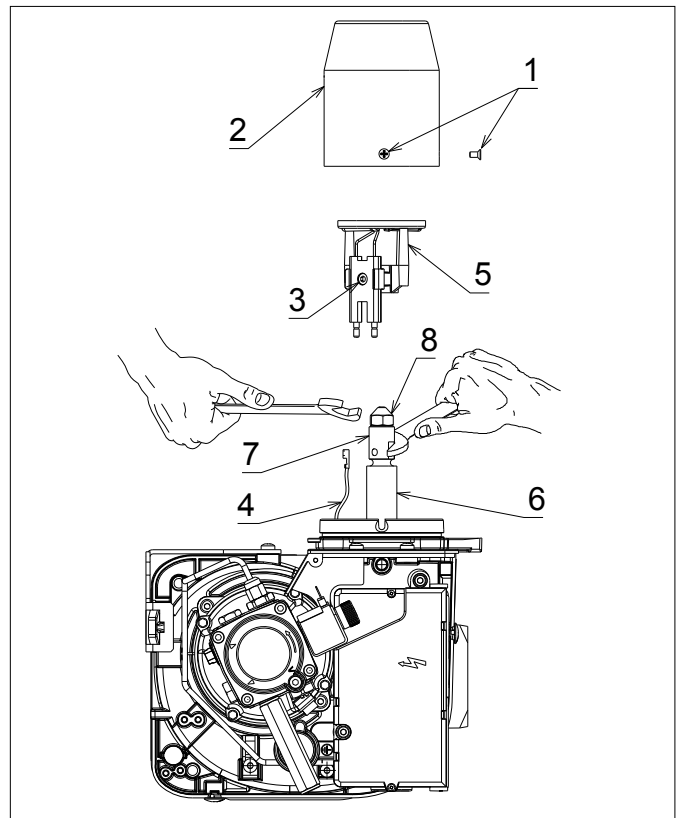
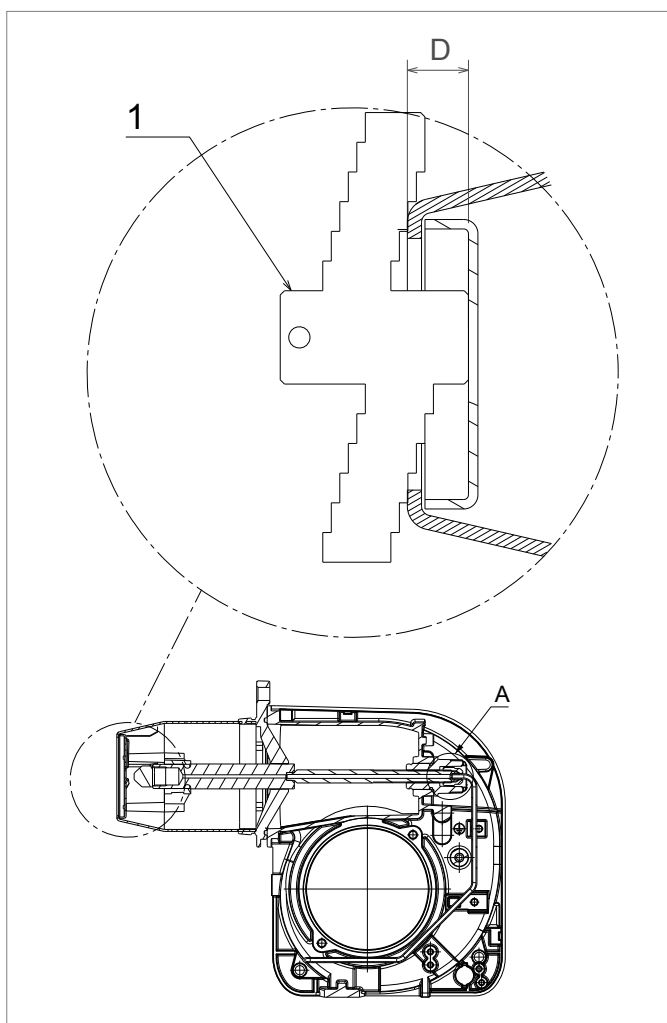

Figure 10-3: Burner head, diffuser and nozzle holder
Figure 10-5: Riello RDB 2.2 BX diffuser position and gauge plate
1. Remove the burner head. Refer to Figure 10-3. Loosen the three fixing screws (1) and remove head (2) from burner.
3. If the nozzle needs to be replaced - remove the diffuser/ electrode assembly. Refer to Figure 10-3.
- Using a 4 mm Allen key, loosen the diffuser fixing screw (3) on the electrode assembly.
- Lift diffuser/electrode assembly (5) up and off the nozzle holder.
- Disconnect both ignition leads (4) from the electrodes.
4. Use a 16 mm spanner to remove/re-fit the nozzle (8), whilst holding the nozzle holder (6) using a 19 mm spanner.
5. Re-fit the diffuser/electrode assembly. Refer to Figure 10-3.
- Reconnect ignition leads (4) to electrodes.
- Re-fit the diffuser/electrode assembly (5) onto the nozzle holder lining up the fixing screws with the recess in the nozzle holder.
- Tighten the fixing screw (3) to secure the diffuser/ electrode assembly in place on the nozzle holder.
7. Re-fit the burner head. Refer to Figure 10-3.
- Locate the head fixing screws (1) in the countersunk slots in the burner collar.
- Tighten the three screws (1) to secure the head (2) in position on the burner.
8. Adjust the diffuser position. Refer to Figure 10-5.
- Position the gauge plate on the burner head as shown in Figure 10-5.
- If necessary, adjust distance D using the black adjustment knob located around the oil supply pipe on the front of the burner. Refer to item A (Figure 10-5). Re-check distance D using the gauge plate, as described above.